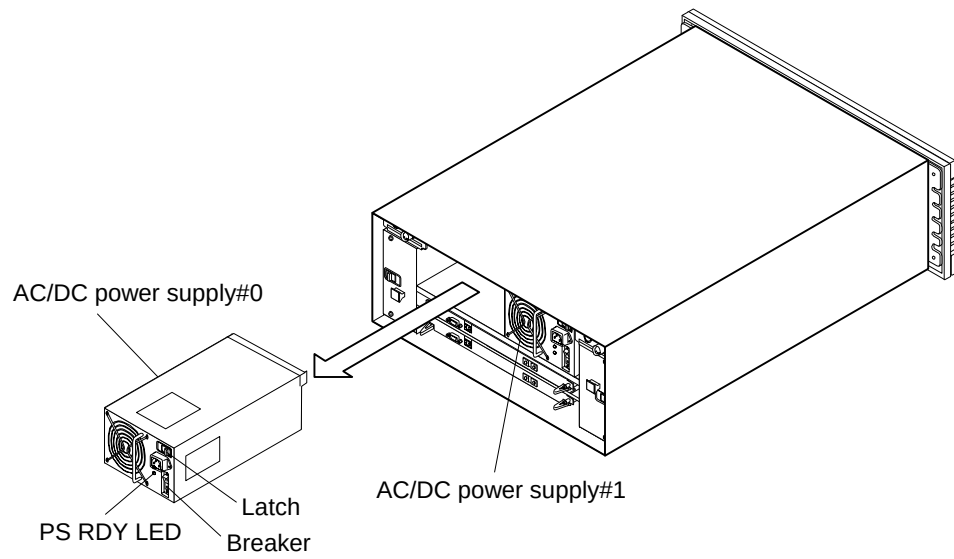

Figure 4.5.10 Replacing AC/DC Power Supply
(1) Procedure for replacement with the power turned on (See Figure 4.5.10)